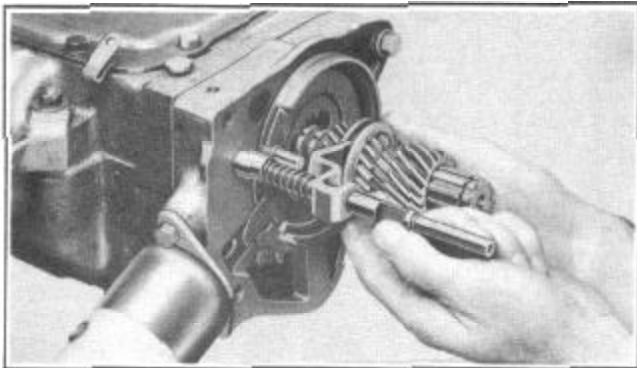

FIGURE 16
6. Remove the sun gear and shift rail assembly, Figure 16.